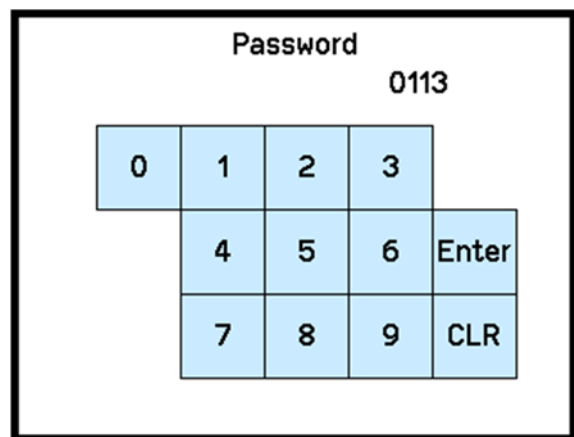

Figure 18
- Confirm Selection & enter **Random Generated Password** from factory (Figure 18)